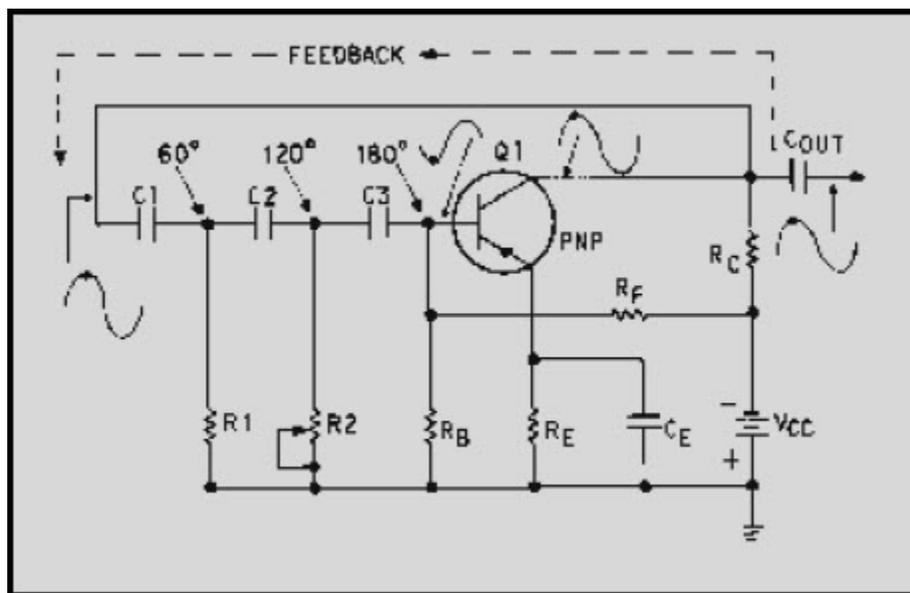

Figure 2-17 Phase-shift oscillator
An RC FEEDBACK or PHASE-SHIFT oscillator is shown in figure 2-17. Components C1, R1, C2, R2, C3, and R_B are the feedback and frequency-determining network. This RC network also provides the needed phase shift between the collector and base.
The PHASE-SHIFT OSCILLATOR, shown in figure 2-17, is a sine-wave generator that uses a resistive-capacitive (RC) network as its frequency-determining device.
As discussed earlier in the common-emitter amplifier configuration (figure 2-17), there is a 180-degree phase difference between the base and the collector signal. To obtain the regenerative feedback in the phase-shift oscillator, you need a phase shift of 180 degrees between the output and the input signal. An RC network consisting of three RC sections provides the proper feedback and phase inversion to provide this regenerative feedback. Each section shifts the feedback signal 60 degrees in phase.